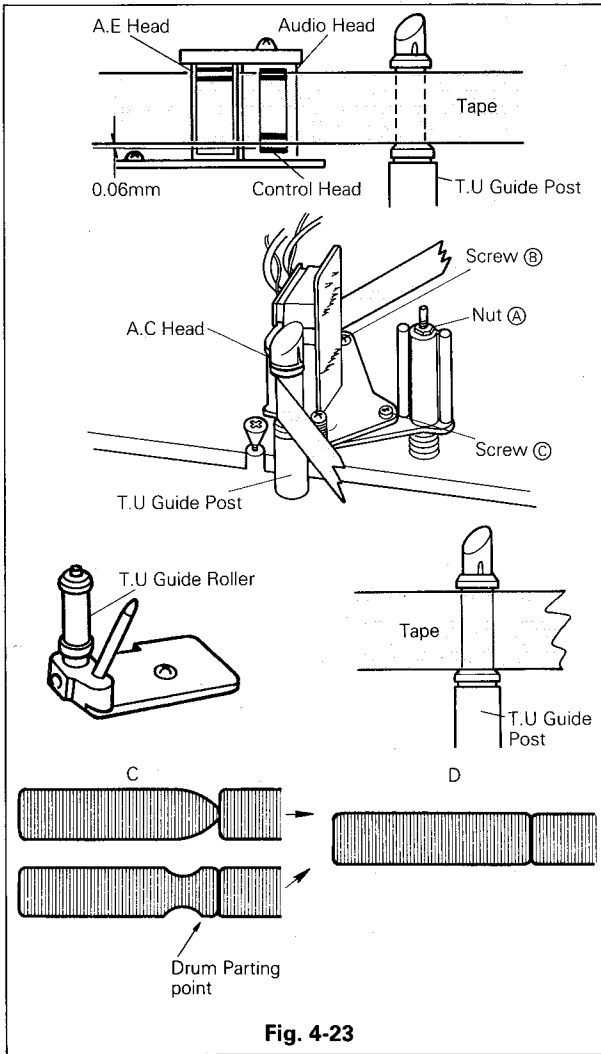

Fig. 4-23
- K. Adjust the waveform at the drum exit point by the same method as for the drum meeting point. If the FM waveform is like, for instance, "C" of Fig. 4-23, adjust the take-up guide roller so that the waveform will be flat like "D".
- L. If the tape is parted or creased at the take-up guide post, adjust screw (C) of the audio/control head shown in Fig. 4-23.
- M. At the same time, rotate the audio/control head height adjusting nut (A) and adjust the head height according to the tape. Determine whether the tape should be raised or lowered according to the criteria shown in Fig. 4-23.